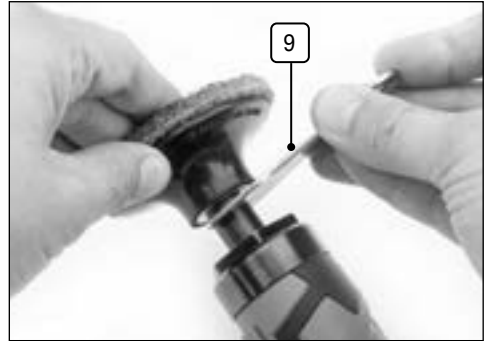

Fig. 4
6.3 Attaching the Backing Pad (Fig.4)